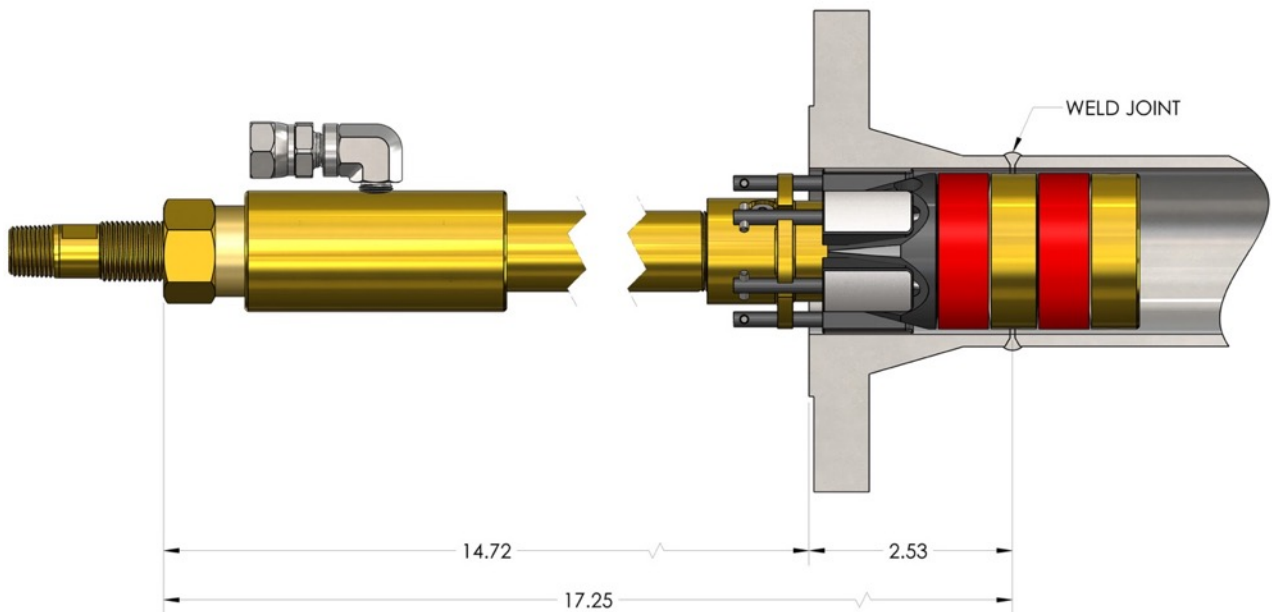

Figure 8: Insertion Depth for Testing Weld
- From the calculation, and as shown in Figure 8, the plug should be inserted into the fitting until the distance from the top of the **Compression Hex Nut(21)** to the end of the fitting is 14.72”.